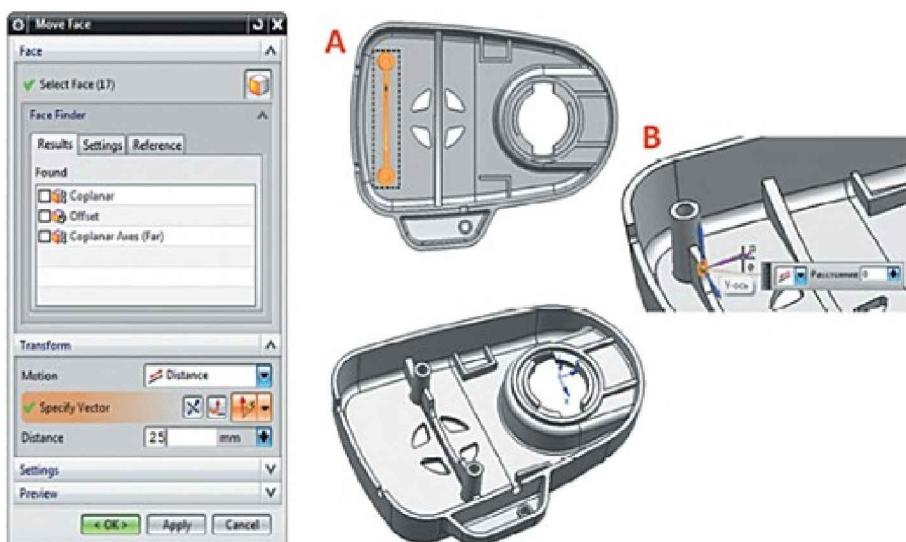

Figure 2.41. *Move Face* command
`example_2_fem1_i.prt` to activate it (the active file name is shown in blue). Click **Move Face** on the **Synchronous Modeling** toolbar. In the **Move Face** dialog box, (Figure 2.41) do the following:
- Select the faces highlighted in Figure 2.41, A.
- Under *Specify Vector*, select a direction corresponding to the OY axis of the global coordinate system in the graphical area (the axis arrow changes to a conical shape) (Figure 2.41, B).